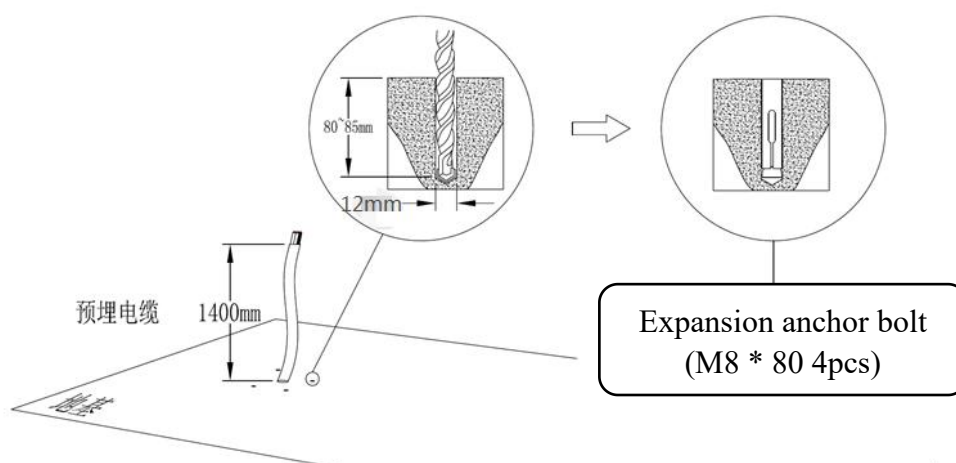

Fig. 4.2-2 Embedded Expansion Anchor Bolt
Step 2: Use electric drill to drill four holes on the foundation, and embed four GB/T 22795-2008 reinforced expansion anchor bolts (TGQ) M8 \* 80, as shown in Figure 4.2-2.